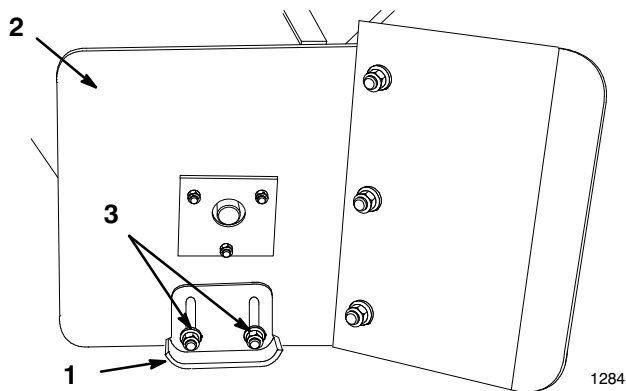

Figure 26
3. Loosen nuts securing skids to the housing until the skids slide up and down easily (Fig. 26).
4. Raise or lower skids equally on both sides, to obtain level scraping action, and tighten nuts (Fig. 26).